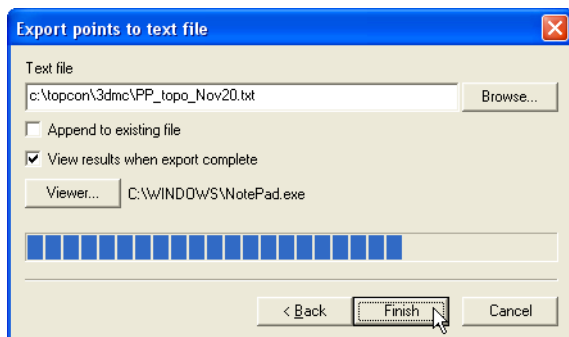

Figure 9-27. Exporting Points to Text File
6. Click **Finish** to export the selected points to a text file (Figure 9-27).